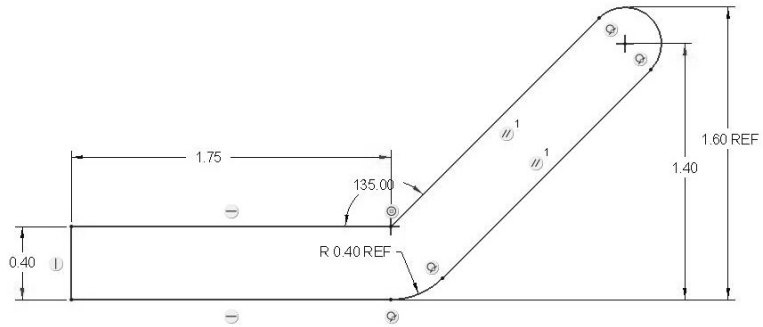
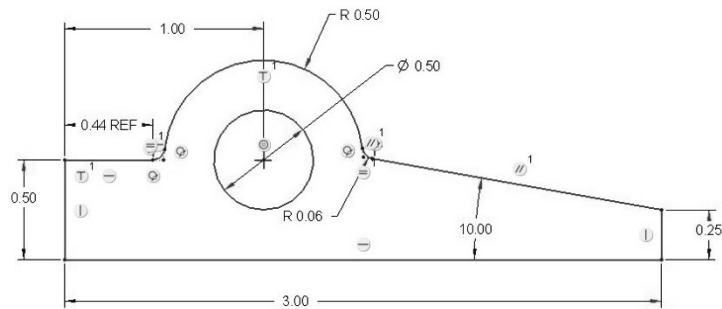
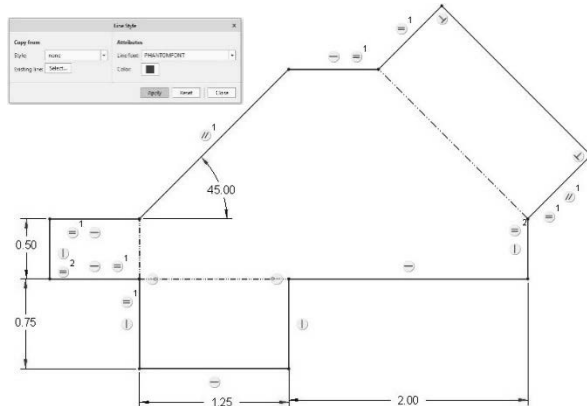

Figure 3-41 Control Bracket
Figure 3-42 Angle Bearing
Figure 3-44 Pattern with Phantom Lines
Step 48: At this point, we have covered most of the commands found in sketcher. Use your knowledge to draw and dimension the following figures, Figures 3-41, Figure 3-42, and Figure 3-44.
Step 49: Draw control bracket side view (Figure 3-41).
Step 50: Draw angle bearing side view (Figure 3-42).
The phantom lines shown below at the folds were created using the LINE tool, then *selecting* the line, holding down RMB until **Menu** pops up, *selecting Properties* from the pop-up menu, changing SOLIDFONT to PHANTOMFONT, *picking Apply*, then *picking Close*. Is it easier to determine what shape is created with the phantom lines added? See Figure 3-44.